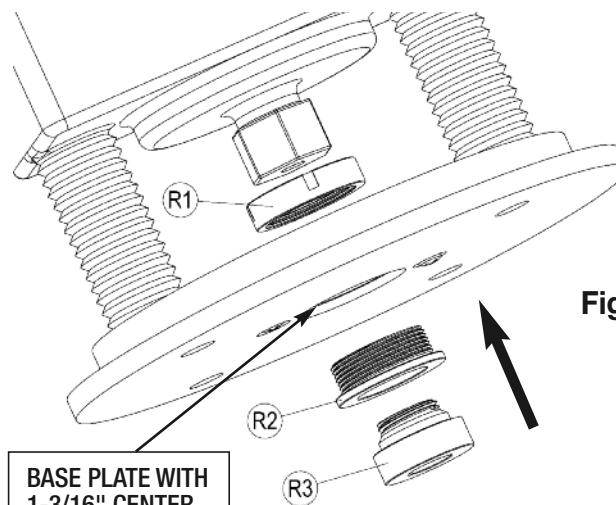

Fig. 3
3. Screw the 1-1/8" *Router Guide Bushing* [R-3] into the center of the *Guide Sleeve* and hand tighten. (Fig. 3)